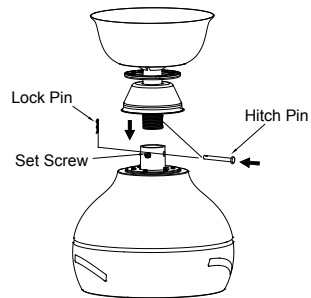

Fig. 7
Step 4. Install the two set screws on the top coupling of the motor assembly. Carefully feed the fan wires up through the downrod, coupling cover, canopy trim cover and canopy. Threaded the downrod onto the motor coupling until the hitch pin holes are aligned. Next, replace the lock pin and hitch pin, and tighten both set screws. (Fig. 7)